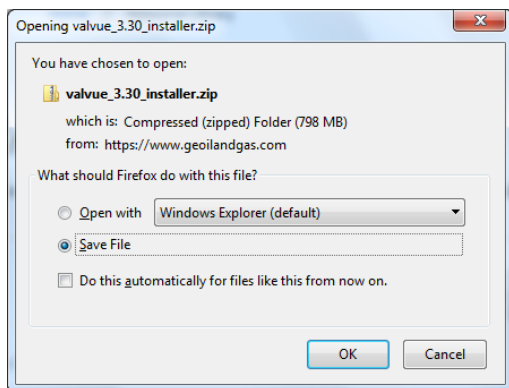

Figure 10 Opening Dialog
- 2. Use the arrows to move through the selections. Select **Download** below *ValVue V3.30 Installer Download* and Figure 10 appears.